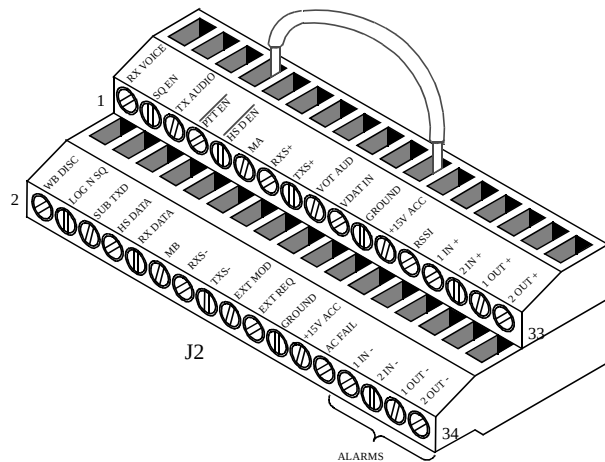

Figure 7-8 J2 - PTT JUMPER
4. Use a jumper wire to ground pin 7 (PTT_N) to pin 21 (GND) on J2 on the back of the cabinet (see Figure 7-8). The transmitter should key up and achieve rated power.